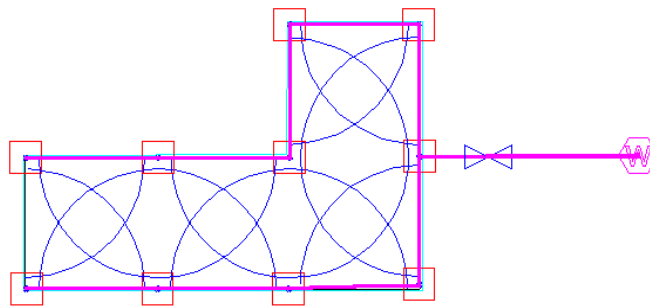

Figure 4-20
7. Select *Zone|Cut Pipe*. This tool is similar to *Zone|Pipe* and is a tool to put in a straight pipe with quick connections to each zone item the pipe crosses without having to click on each item to connect to it. Click on the top far left sprinkler. Now click on the sprinkler where the area goes upward. Click on the top left sprinkler then the top right sprinkler. Now click on the bottom right sprinkler and then the far-left sprinkler. *Right-click|Restart*. Your design should look like Figure 4-20.